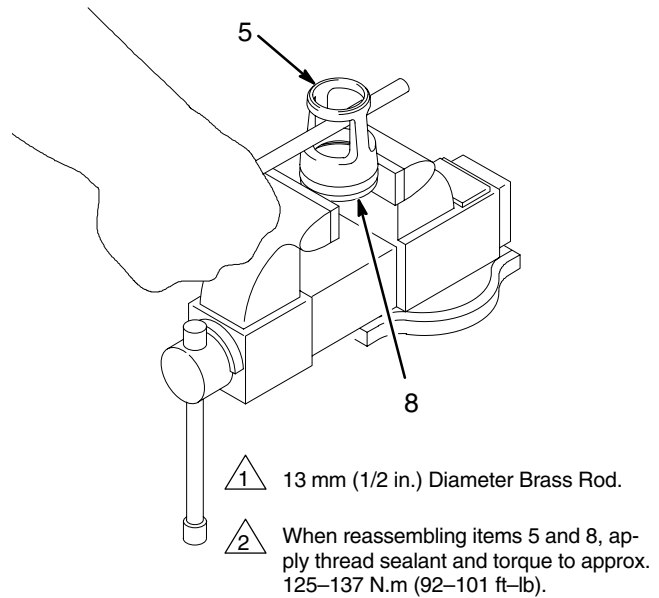

Fig. 9
14. Remove the displacement rod (1) from the vise and inspect it for scratches and scoring by running a finger over the surface.
15. Place the piston seat and guide assembly in the vise and close the jaws on the flats of the seat (8) just tight enough to hold the part. Slide a brass rod through the openings in the piston guide (5) and unscrew it from the seat as shown in Fig. 9. Remove the piston seal (7).
1. Install the intake valve seat (11†) in the intake housing (17), with the large bevel of the seat facing the bottom of the housing. Lubricate the seal (39*†) and install it in the housing. Set the intake housing aside.
2. Install the piston seal (7*) on the piston seat (8). Place the seat in a vise and close the jaws tight enough to hold it securely, without placing too much stress on the part. Apply thread sealant to the threads of the seat and the piston guide (5). Screw the guide onto the seat (8). Tighten using a brass rod until the guide is securely seated, approximately 125–137 N.m (92–101 ft–lb). See Figs. 9 and 11.
3. Place the flats of the piston (6) in a vise. Apply thread sealant to the threads of the rod (1) and the top threads of the piston. Set the piston seat/guide assembly onto the piston.
- NOTE:** Service Tool 109508 is available as an accessory. The tool fits over the top of the displacement rod (1), making it easier to apply a 24 inch adjustable wrench or 3/4 in. drive socket when connecting the rod to the piston (6).
4. Screw the rod (1) into the piston (6) hand tight. Torque the rod to 459–481 N.m (338–354 ft–lb). There will be a small gap between the top of the piston (6) and the shoulder of the rod (1).
5. Apply thread sealant to the bottom threads of the piston and the top threads of the priming piston rod (12). Using an adjustable wrench on the flats of the rod, screw the rod into the piston. Torque to 125–137 N.m (92–101 ft–lb). Be careful not to create burrs on the flats of the rod.